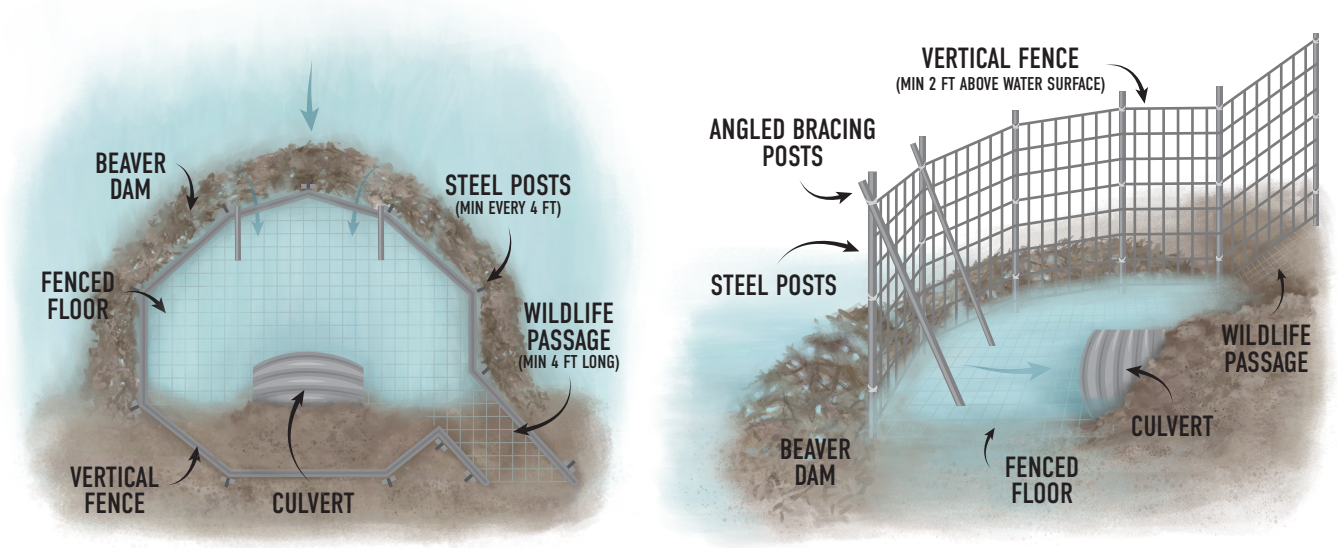
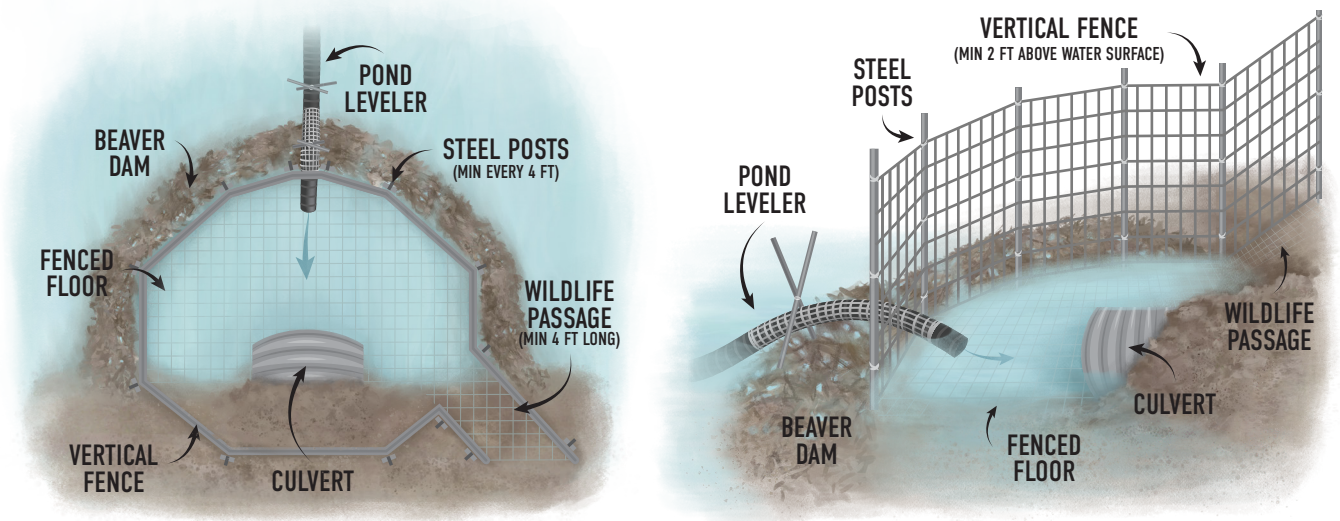

Figure 9. Standard anchor fence shown from above (left) and side (right).
Figure 10. The combination of an anchor fence and pond leveler to create a pipe and fence culvert protection system shown from above (left) and side (right).
An **anchor fence** (Figure 9) directly protects the culvert's mouth with a semi-circle of fencing. Beaver damming activity is still allowed at the culvert mouth, but the location of the dam is controlled by the fence structure. By relocating the damming activity upstream, flow through the culvert is unimpeded. This design can be modified to accommodate a pond leveler through the anchor fence if the elevation or extent of the upstream beaver pond must be limited. The modification of adding a pond leveler to an anchor fence is often called a **pipe and fence** culvert protector (Figure 10).
9. Stabilize with heavy-duty steel posts at least every 4 feet and firmly driven into the streambed. Angle bracing the upright posts with additional steel posts is recommended for streams with heavy flows (see bracing in Figure 9). Untreated 2" by 6" timber can be used for additional bracing around the entire top of the fence. Use heavy gauge wood staples to secure the wire mesh to the wood and heavy duty lag bolts to attach the cross bracing at the corners.
- Construct a half-circle of fencing to protect the culvert or spillway, with the top of the arc facing upstream (Figure 9). Allow for 6-8 feet of radial space between the fencing and the culvert.
8. Construct one opening in the exclusion fence perimeter adjacent to one side of the culvert mouth that extends to the dry bank with side walls for a minimum of 4' long across dry ground. Extend a floor in this terrestrial wildlife passage from the floor of the flow device to the end of the passageway (Figure 9) and infill with small rocks and other on-site materials to provide solid footing. Build this passage minimum of 16" wide and minimize exposed sharp wire ends for both wildlife and human safety.
12. Install the overflow pipe through the fencing of the anchor fence (Figure 10) at the desired maximum dam crest elevation and secure in place with corrosion-resistant wire (minimum of 9-gauge or heavier) and heavy-duty steel posts. Products with zinc or copper should be avoided as these are toxic to aquatic life.